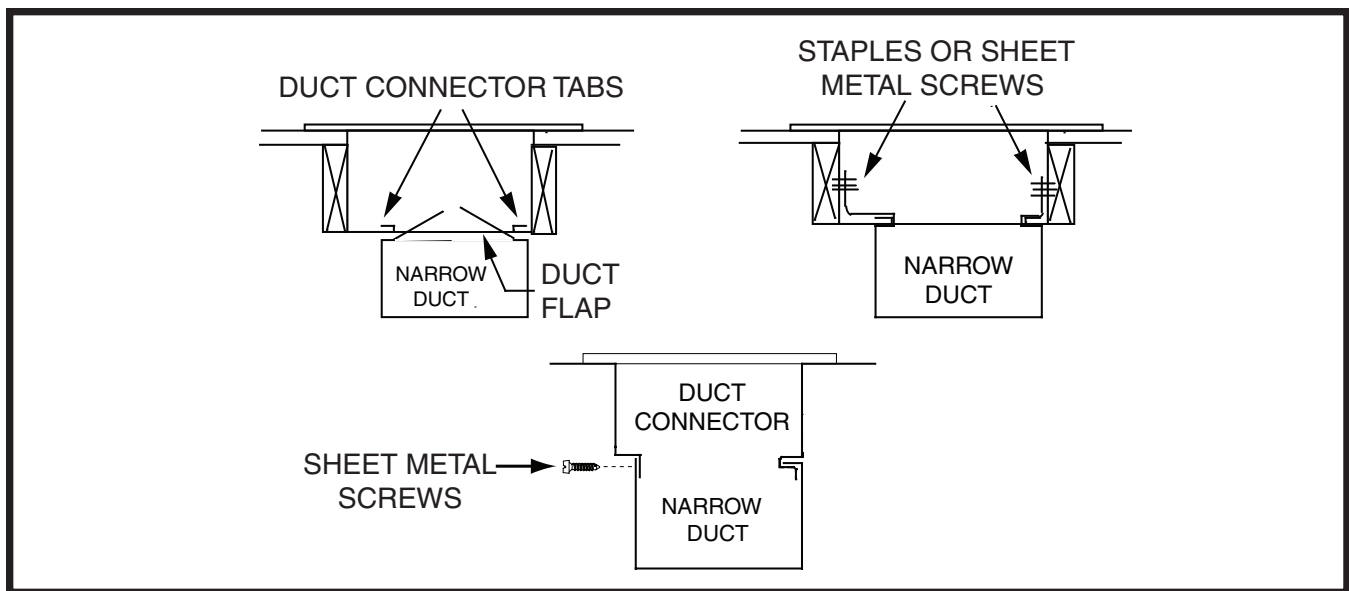

Figure 11. Narrow Ducts
4. Bend the tabs on the bottom of the duct connector upwards and as tight as possible against the supply air duct. See Figure 11 (page 9).